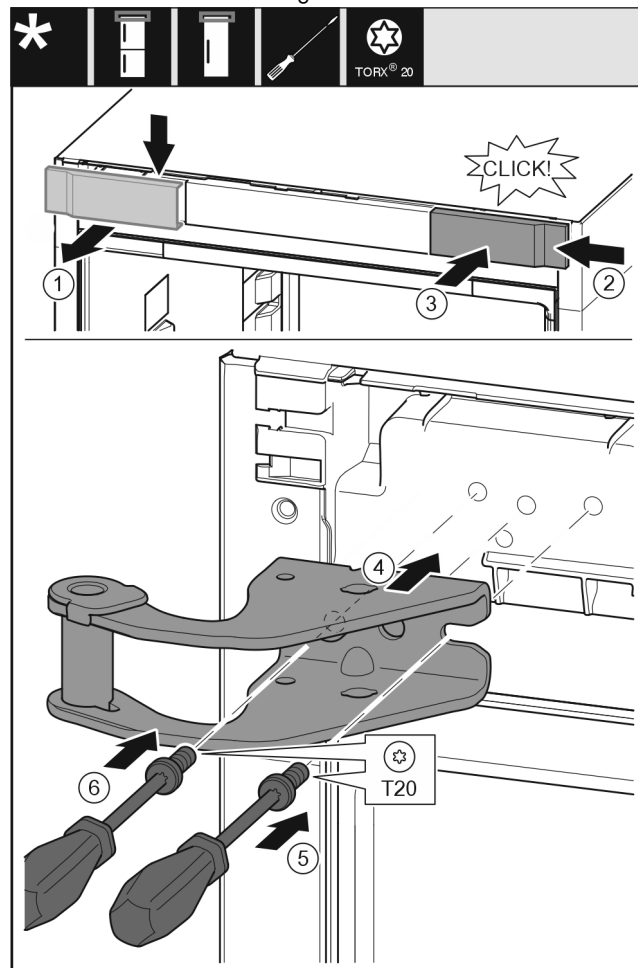

Fig. 14
- Take off the cover to the front from above. *Fig. 14 (1)*
- Rotate the cover 180° and clip onto the other side from the right. *Fig. 14 (2)*
- Latch the cover into place. *Fig. 14 (3)*
- Position the upper bearing bracket. *Fig. 14 (4)*
- ▶ Insert the screw with a T20 screwdriver and tighten it. *Fig. 14 (5)*
- ▶ Insert the screw with a T20 screwdriver and tighten it. *Fig. 14 (6)*